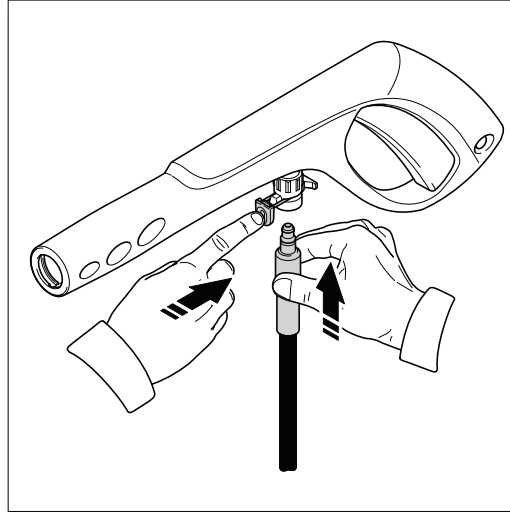

Fig. 5
- Connect the other end of the high pressure hose to the spray gun by inserting the brass metal tip of the high pressure hose into the fitting just ahead of the trigger guard. It will lock into the spray gun with a "click" (Fig. 5). Confirm the hose is locked into the spray gun by pulling slightly on the hose. The hose is now securely attached to the spray gun.